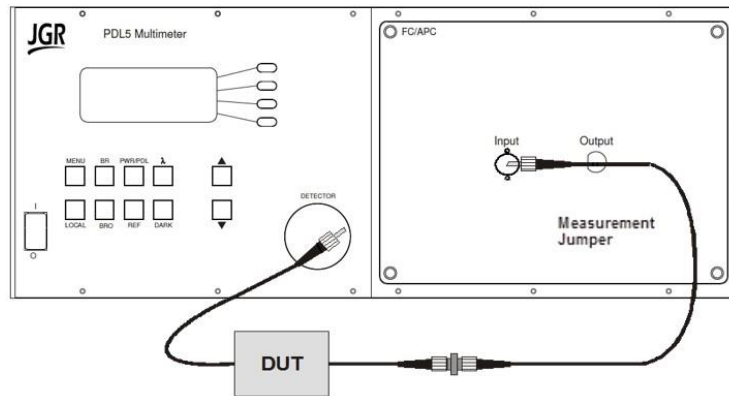

Figure 11: Measuring Relative Power (insertion loss)
4. Clean the output connector of the measurement jumper and the input connector of the DUT, and connect the two together. Connect the output connector of the DUT to the detector on the front of the meter. The meter displays the loss due to the DUT (see Figure 11).